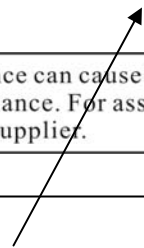

Figure 9
3. Stick the conversion label on the rating plate as shown in Figure 9.